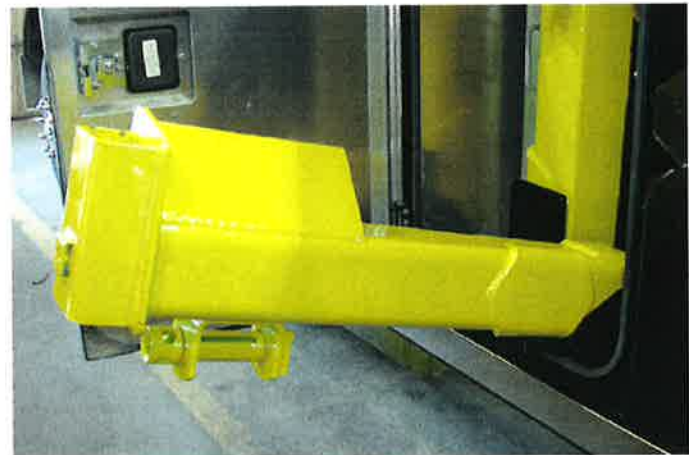

FIGURE 11
- (c) To store bus lift outer crosstubes, first tilt pivot bracket weldment out as far as it will go. Insert end of crosstube into pivot bracket weldment as shown in Figure 11.